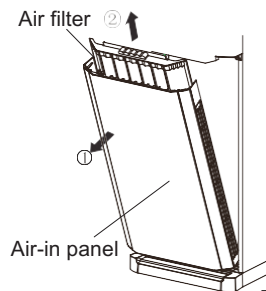

Fig. 2
According to the arrow direction ① in fig. 2. Draw out the filter according to arrow direction ②.